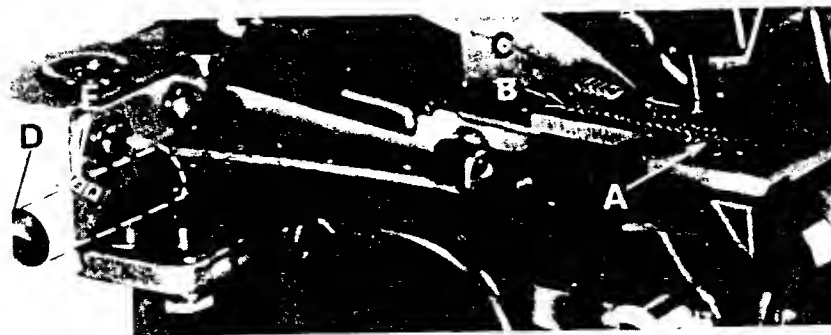

Fig. 12
Now assemble differential (front) feed dog (A, Fig. 12), if not already in place, main (back) feed dog (B) and chaining feed dog (C).
On 695B010 and 052, set all three feed dogs (A, B, C, Fig. 12) so the top surfaces of teeth all lay in the same plane. This can be checked by sighting across teeth with a straight edge. Now assemble throat plate. Feed dogs should now be leveled with throat plate surface by rotating feed tilting adjusting pin (D). This pin raises or lowers the back end of both feed bars at